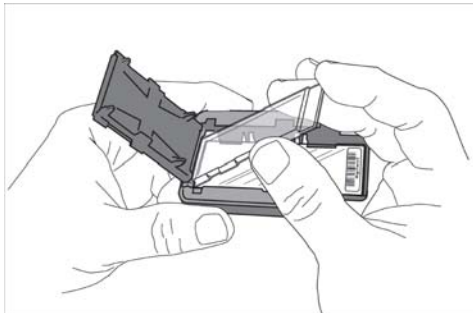

Figure 2 Inserting the ozone-barrier slide cover
- In environments in which the ozone level exceeds 5 ppb, immediately put the slides with Agilent barcode facing up in a slide holder with an ozone-barrier slide cover on top of the array as shown in Figure 2.
- 17 Immediately put the slides with Agilent barcode facing up in a slide holder with an ozone-barrier slide cover on top of the array as shown in Figure 2 on page 60.